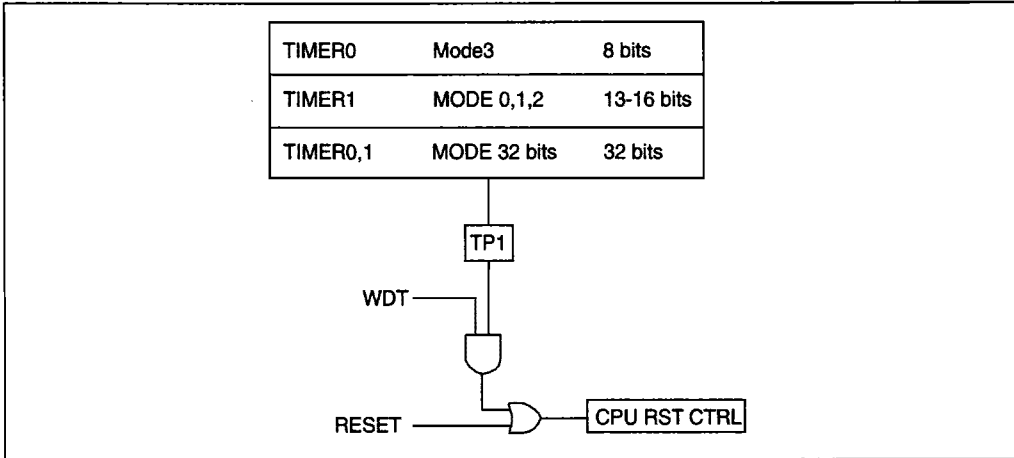

Figure 15 : The Different Watchdog Configurations.
- WDT = 1 enables access to this mode. As shown in figure 15, all the modes of TIMERS 0 and 1, of which the overflows act on TF1 (TF1 = 1), activate the WATCHDOG Mode.